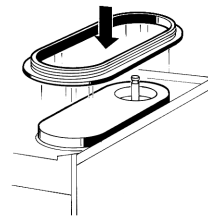

figure 7
- 4** Fit the bowl gasket to the evaporator. Note: the largest brim of the gasket must face against the drip plate (see figure 7).